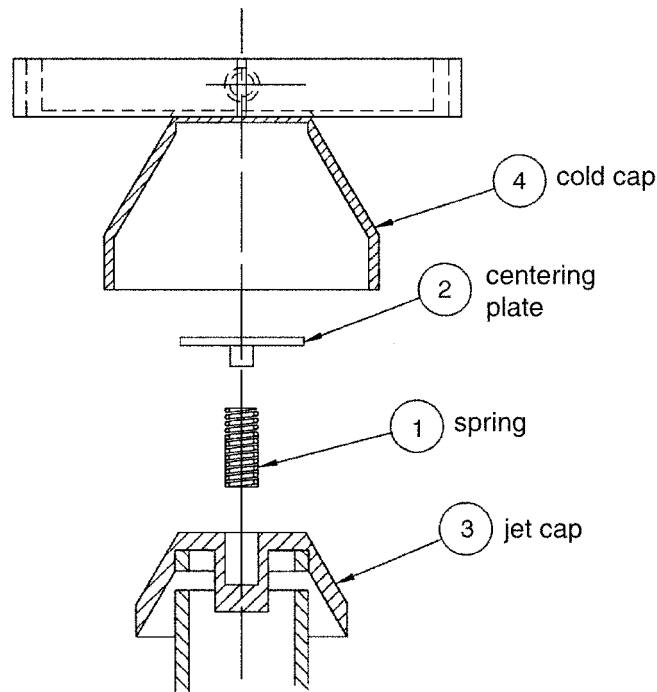

Figure A-1 Jet Cap Assembly Diagram
9. Place the jet cap (3) on the jet assembly (Figure A-1).
10. Put the spring (1) in the counterbore of the jet cap.
11. Place the centering plate (2) on the spring.
12. Reinstall the cold cap (4).